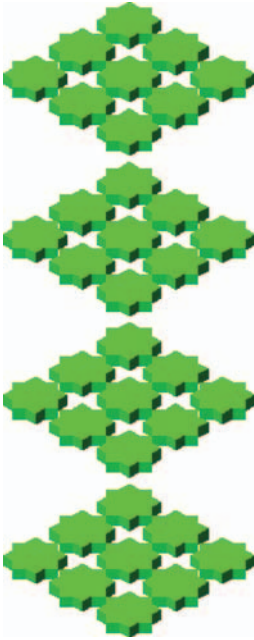

Fig. 14.12 First example – a Rectangular Array
First example – a Rectangular Array (Fig. 14.12)
4. Shade using the **Home/View/Conceptual** visual style (Fig. 14.12).